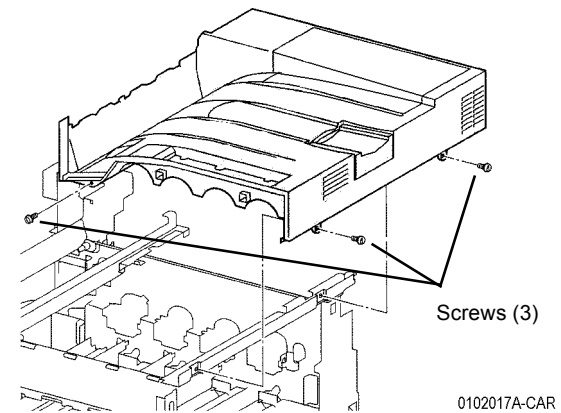

Figure 3 Removing Top Cover
7. Remove Top Cover (Figure 3).
- b. Remove Screws (3).